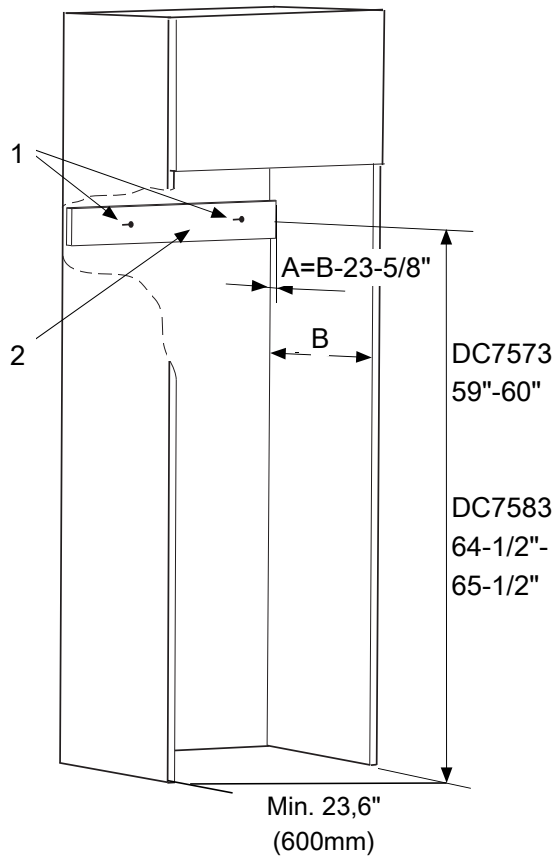
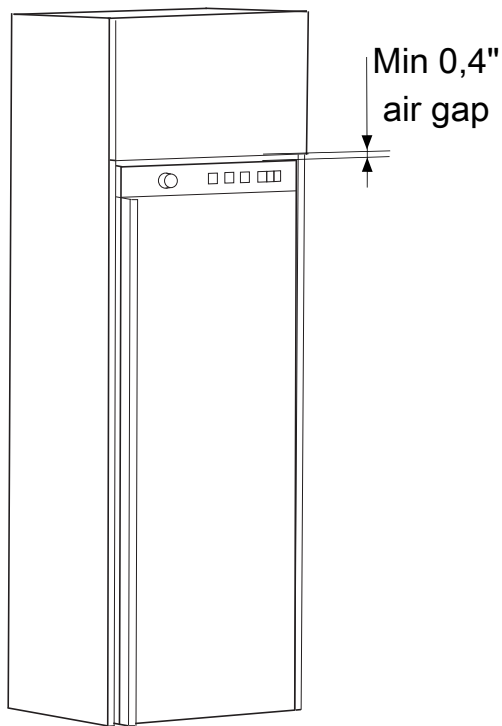

Figure 1
Figure 2
1. Measure assembly depth "B" where the drying cabinet is to be installed (see figure 1).
2. If assembly depth "B" is greater than 23,6" (600 mm), a wooden batten (2) of thickness "A" must be cut to size. The wooden batten is not supplied.
4. There should be an air gap of at least 0,4" (10 mm) above the drying cabinet (see figure 2) in order to ensure optimum drying performance from the cabinet.
8. Cut a wooden batten (2) of thickness "A" and with a length of 19,7-22,6" (500-575 mm). It must be as thick as the difference between assembly depth "B" and 23,6" (600 mm). If assembly depth "B" is 24,4" (620 mm), batten thickness "A" must be 0,8" (20 mm).
9. Screw the wooden batten into position with two screws (1) on the wall behind the drying cabinet at the same height as the marked holes, as set out in step 6.
2. Loosen the hinge plate, see figure 1.